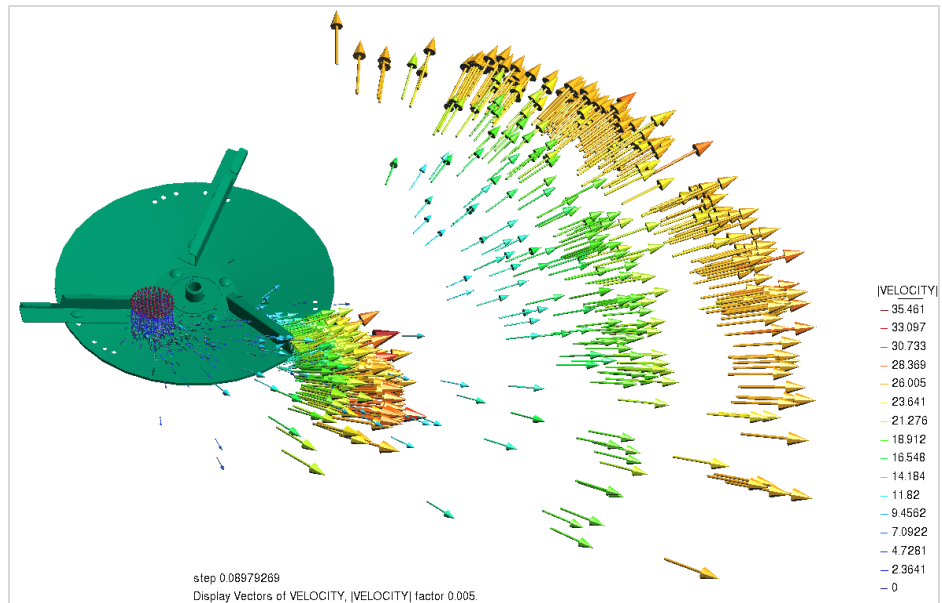

Figure 44. Velocity vectors.
- Velocity vectors:** module of the velocity vectors of the fertilizer particles, in meters per second, represented by a color scale (Figure 44). It may be useful, for example, to estimate the ejection velocity of the particles when they leave the disc vane.